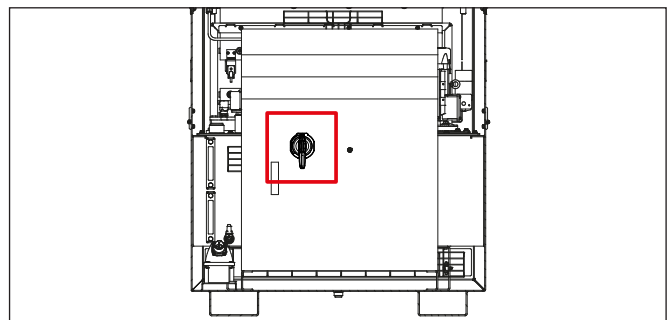

Figure 50: Main switch layout
- Turn ON the main switch in the electric cabinet. Refer to the Figure 50 to see the location of the main switch of the system.